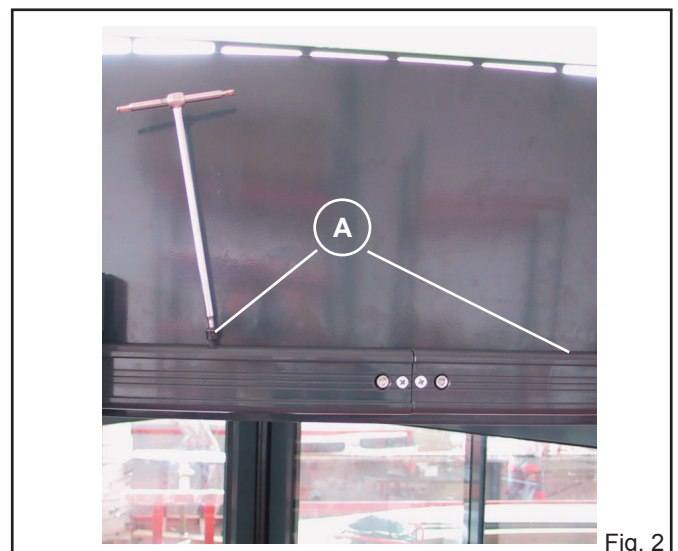

Fig. 2
- (Fig. 2) Secure the wings to each other at the top by means of the M6x90 screws.
- (Fig. 2) Fit the first moveable wing on to pin [17] in the pillar base.
- (Fig. 2) Fix all the ceiling sections minus one (recommended on the inside side) to make it possible to inspect the
- 7.2 (Figure 2) Loosen and remove each of the closing stop screws [A] on the two guides.
- 7.5 (Figure 2) Refit the closing stop screws [A].